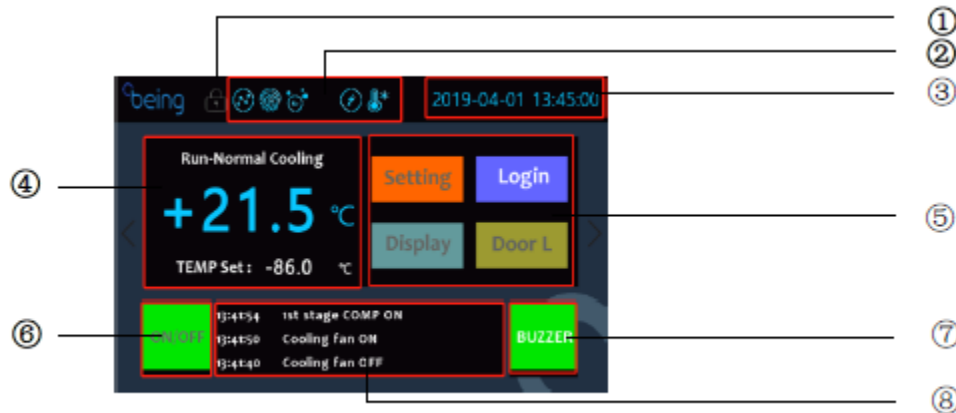

Figure 1-13.
2. Touch anywhere on the screen to enter the home page. As shown in Figure 1-13.
- ① —Log in / Log out icon, blue after log in and grey after log out, as shown in Figure 1-13 and Figure 1-15.
- ② —Options icon, from left to right are Multi-Unit Constraint, Fingerprint Module, N₂/CO₂ Back- up System, Volt Stabilizer and Spare TEMP
- ③ —Time display area.
- ④ —Chamber temperature display area.
- ⑤ —Main operating area including (4) four buttons.
⑥ —Freezer “ON/OFF” button.
⑦ —“BUZZER” button
⑧ —Running records display area, display the latest three records.